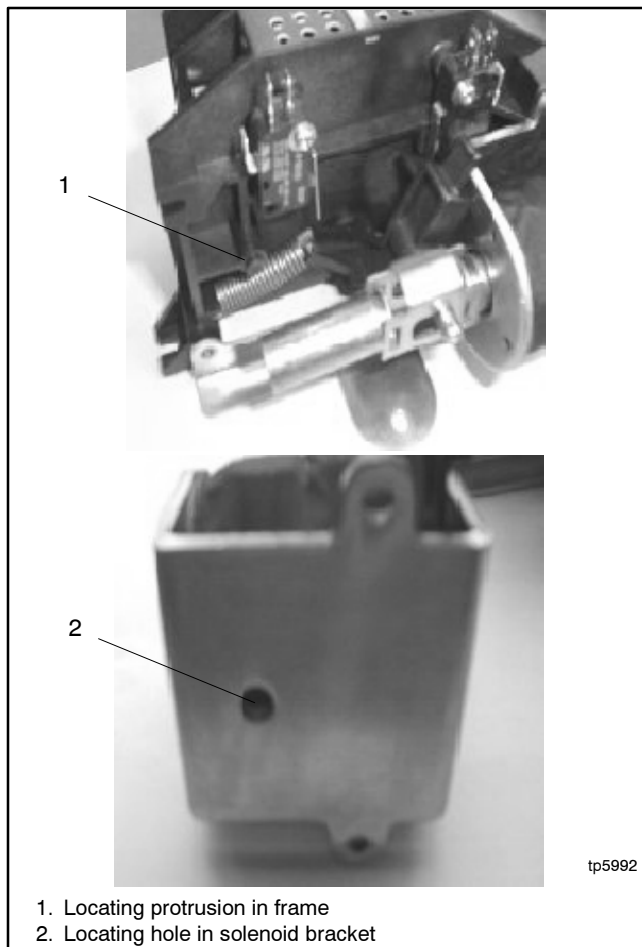

Figure 6-7 Locating the Solenoid Assembly, Typical
2. Align locating hole in the solenoid bracket with the locating protrusion in the frame. See Figure 6-7.